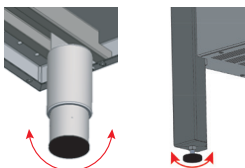

Figure 4. Leveling the device
- Set the cooker on a firm and stable floor in a room that is suitable for the cooker to operate in, compliant with building regulations, and then level with adjustable feet (Fig. 4).